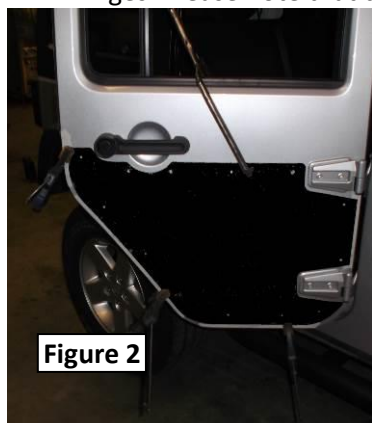

Figure 2
2. Using the 1/2" marks as a guide, carefully position each Armor Panel to maintain an even border around each piece. The Rear Tub Side Armor, and the Front Fender Armor will align at the top with the ridge of the Jeep's sheet metal body. Also make sure to position the door panels so that they are evenly centered between the hinges. Please note that the 1/2" marks may not perfectly align with the edges of the panel, they are only to be used as a guide to maintain an even border. An extra set of hands, and some clamps will be extremely helpful to keep the panels in place while marking. Once satisfied with the placement of the panel, carefully mark each hole with a permanent marker (making sure not to move the panel). Repeat this process until all panel holes have been marked. The triangular center badge piece is optional and you can leave it off if you prefer. (**Fig. 2**)